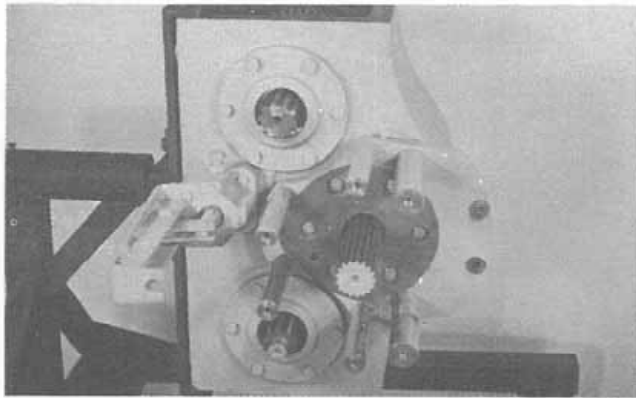

Figure 1:
1. Remove the drive yokes from the input and output shafts. Then remove the brake group from the center shaft (Fig. 1), if it has not been previously removed.